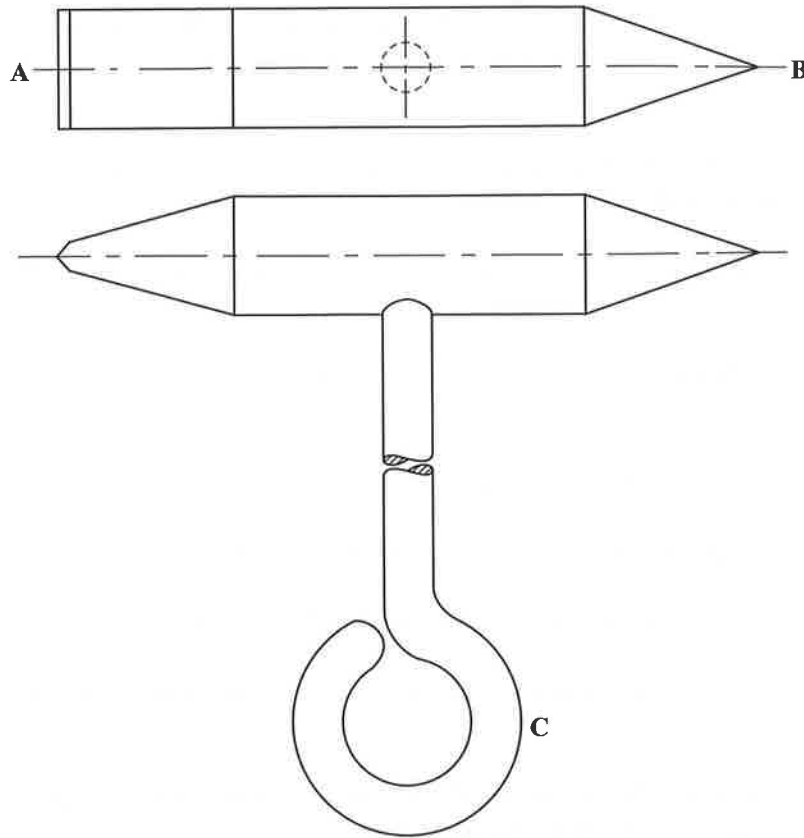

Figure 6. Chipping hammer
8. Figure 6 shows the elevation and plan of a chipping hammer to be forged from a piece of 20 mm diameter mild steel bar.